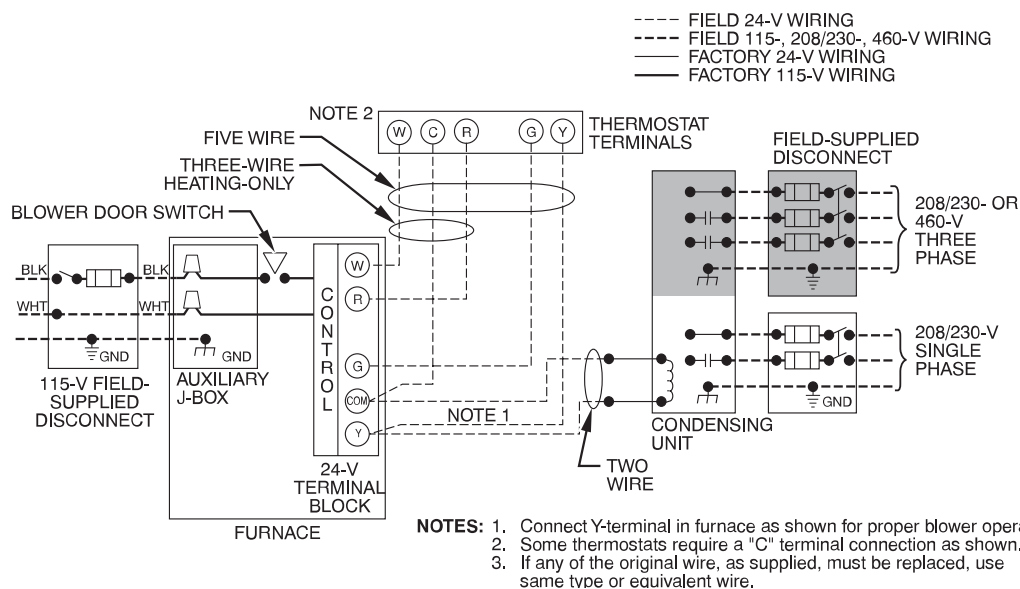
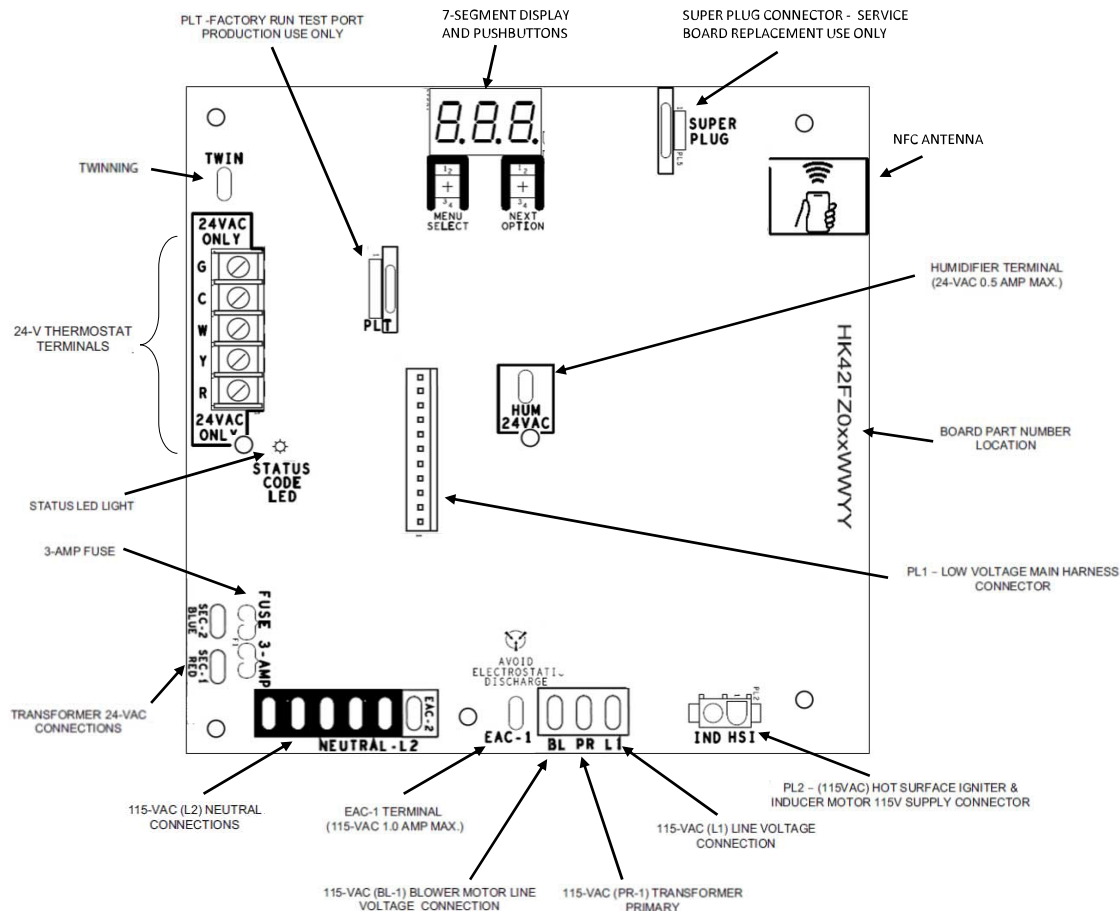

Fig. 33 – Typical Field Wiring Diagram
Fig. 38 – Example of Single Stage Furnace Control
See Fig. 33 for field wiring diagram showing typical field 115-V wiring. Check all factory and field electrical connections for tightness.
- Connect power cord power and neutral leads to furnace power leads (Fig. 33).
- Connect field power and neutral leads to furnace power leads (Fig. 33).
Make field 24V connections at the 24V terminal strip (Fig. 38). Connect terminal Y as shown in Fig. 33 for proper cooling operation. Use only AWG No. 18, color-coded, copper thermostat wire.
The 24V circuit contains an automotive-type, 3A fuse located on the control. Any direct shorts during installation, service, or maintenance could cause this fuse to blow. If fuse replacement is required, use **ONLY** a 3-amp. fuse of identical size (Fig. 38).
Refer to Fig. 38.
The HUM terminal is energized when the pressure switch closes during a call for heat (Fig. 38).